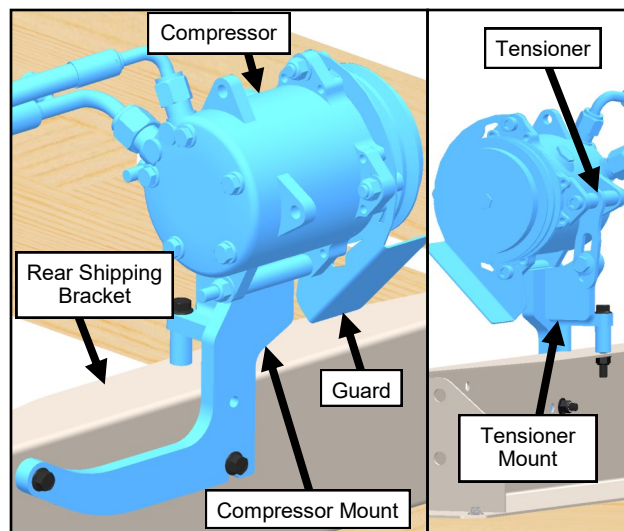

Fig. 1.31 (Remove Compressor Mount)
- 1.31** Remove compressor (with guard and tensioner) from the compressor and tensioner mounts and keep the three 3/8" screws and three 3/8" nuts with compressor. Support the compressor using a bungee cord or rope. Do not ever use the hoses to support the compressor or damage may occur. Next, remove compressor and tensioner mounts from rear shipping bracket and discard the three 5/16" screws and three 5/16" nuts. See Figure 1.31.